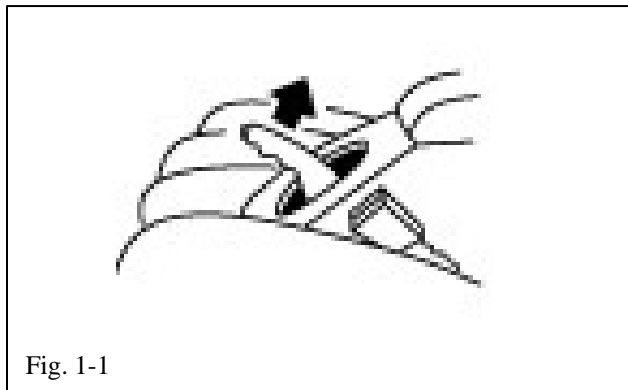

Fig. 1-1
- STOP** (b) Firmly apply the parking brake (Fig. 1-1).